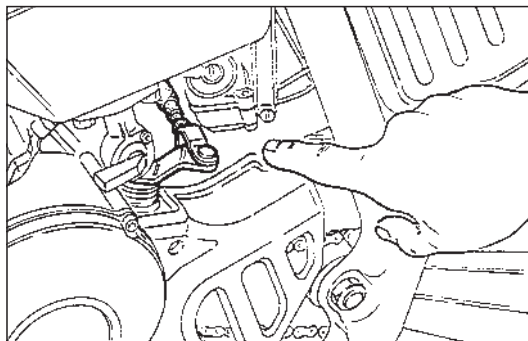

Fig. 52
If this distance is not correct, turn the control lever adjuster (1) or the adjuster on the motor cover (Fig. 52).